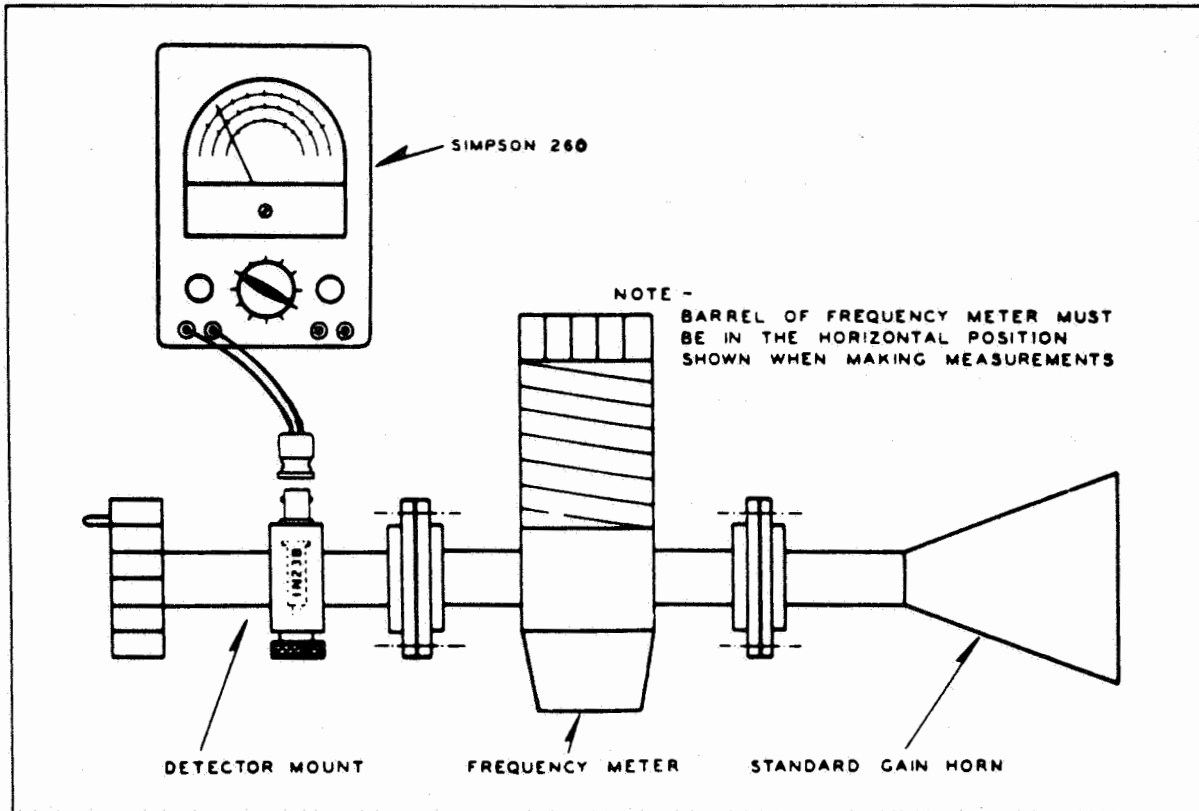

Figure 3-1. Frequency Measuring Test, Portable Set-Up
2. Insert 1N23B crystal in detector mount and attach standard gain horn antenna (see Figure 3-1 below). Use coaxial cable, such as RG-58, to connect the Simpson voltmeter to the circuit.